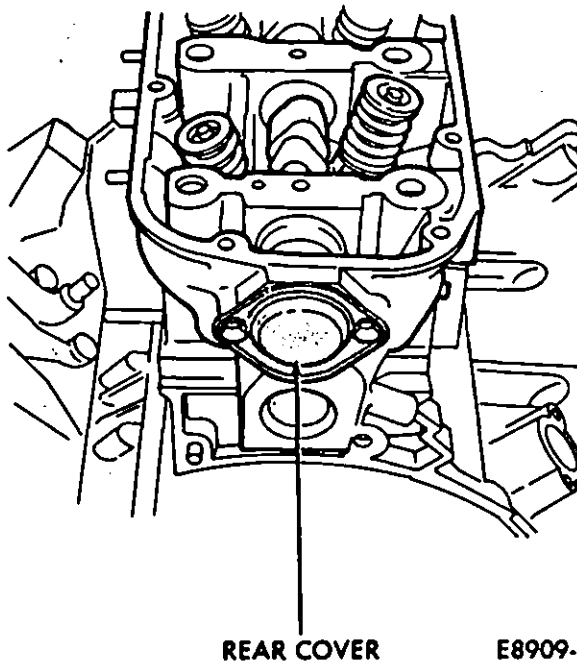

Fig. 14—Rear Cover of Cylinder Head
(1) Remove the cover at the rear of the cylinder head (Fig. 14).